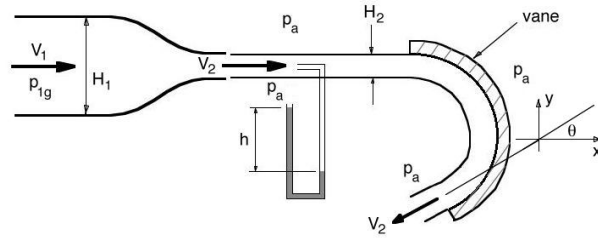

Figure P3.61
3.61 Water of density ρ flows steadily through a smooth contraction of width w , as shown in Figure P3.61, and exits to atmospheric pressure. A Pitot tube in the jet is connected to a manometer where the other end is open to atmospheric pressure. The manometer fluid has the same density as water. The jet of water strikes a vane that turns the fluid an angle θ .